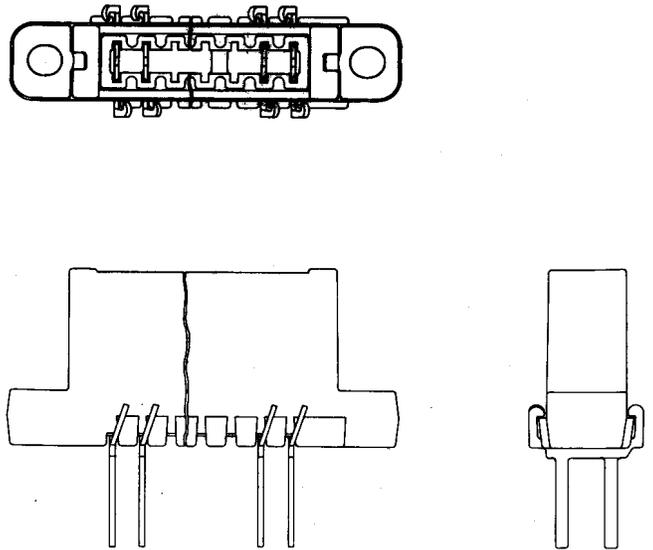

Fig. 2—902A or B Connector
2.02 **902A and B:** The 902A and B connectors (Fig. 2) consist of a molded block of insulating material. The terminals are arranged for mechanically wrapped connections. The 901A and B connectors are arranged to mate with the 502A and B plugs, respectively, and are used in the T1 Carrier System.